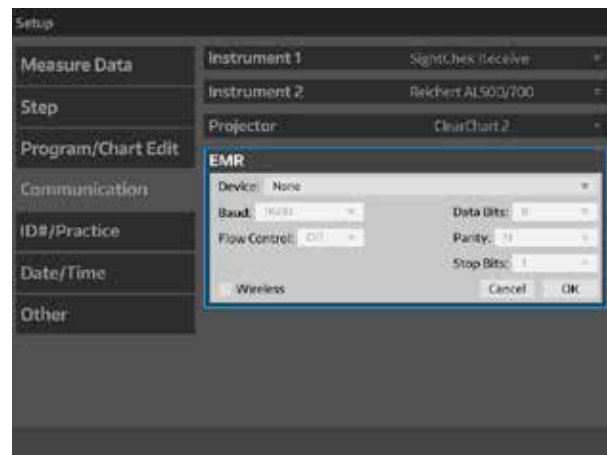

Figure IS-43 Settings Menu
5. Touch **OK** to save the settings and close the EMR settings box, and go back to the Communication screen. Refer to Figure IS-43.